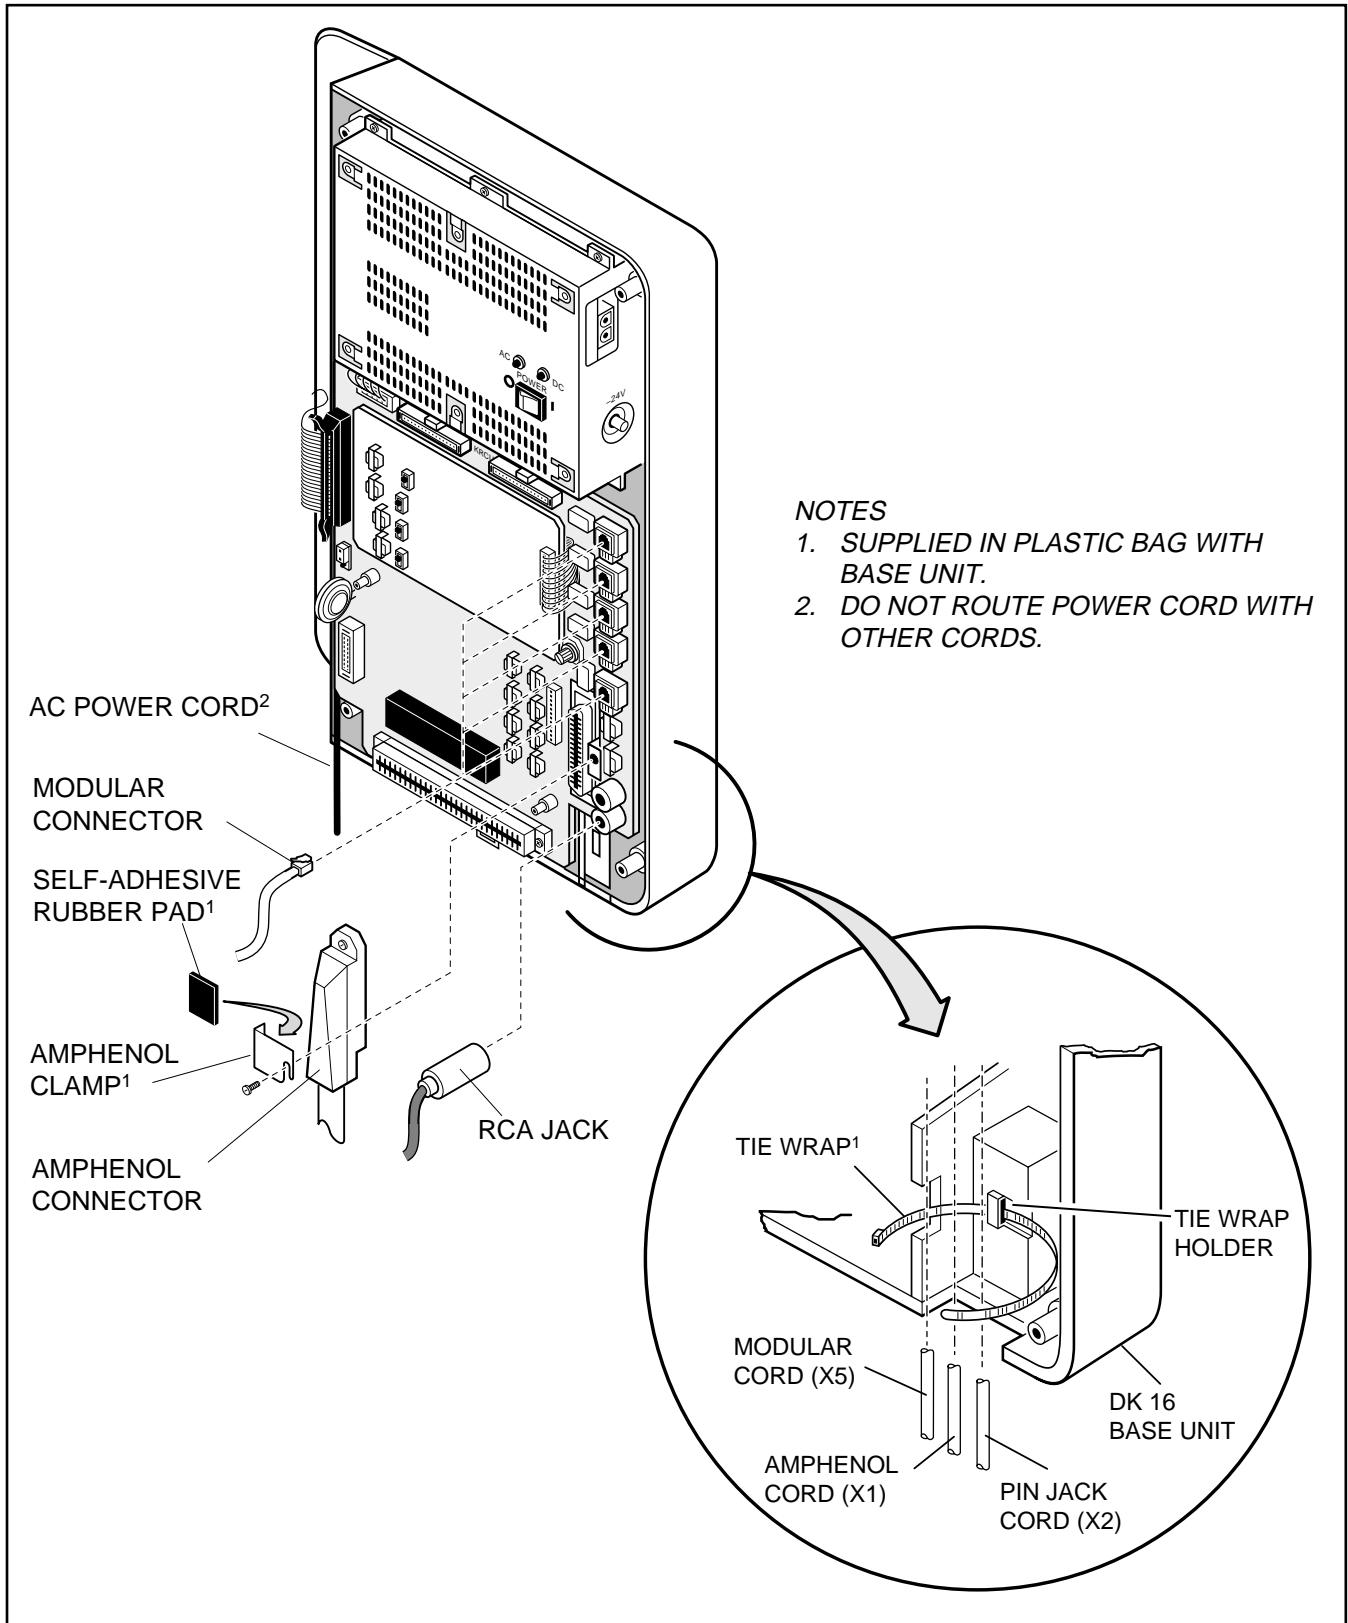

FIGURE 5-4
- 8) Connect applicable wiring (modular CO line cords, 25-pair amphenol connector cable, etc.) to the Base Key Service Unit and then fasten wiring to the unit with the tie wrap that comes with the base unit (Figure 5-4). Remove amphenol connector clamp from plastic bag that comes with the Base Unit. Fasten the clamp to hold the amphenol connector.